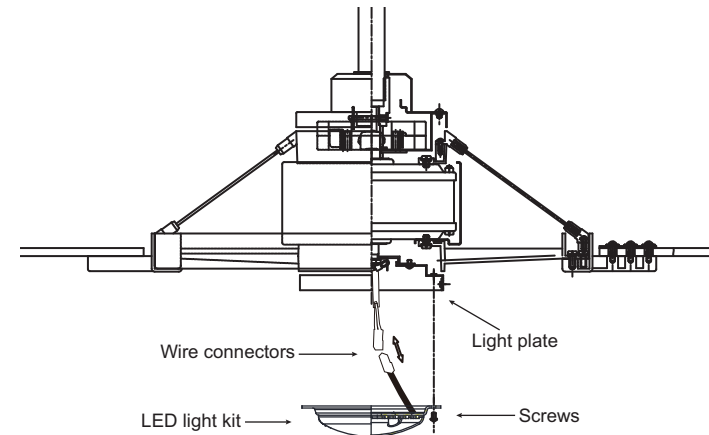

Fig. 17
Step 1. Loosen the three mounting screws on the inside of the LED light kit. (Fig.17)
Step 2. While holding the LED light kit under the fan motor, make the wire connections: (Fig. 17)
Step 3. Tuck the connections neatly into the light plate. Place the key holes on the LED light kit over the 2 screws previously loosened from the light plate, turn the LED light kit until it locks in place at the narrow section of the key holes. Secure by tightening all three screws. (Fig.17)